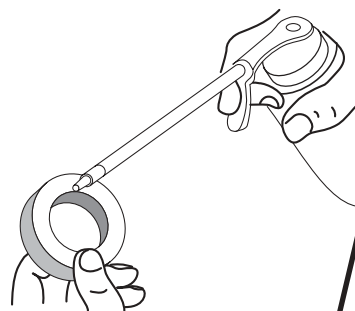

Figure 25
4. Apply enough clean SAE 30 oil to lightly coat the filter. See Figure 25.